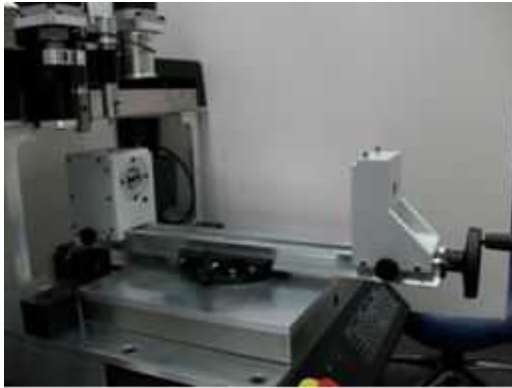

Figure 1
- 1 Open the software and turn the machine on, see Figure 1.